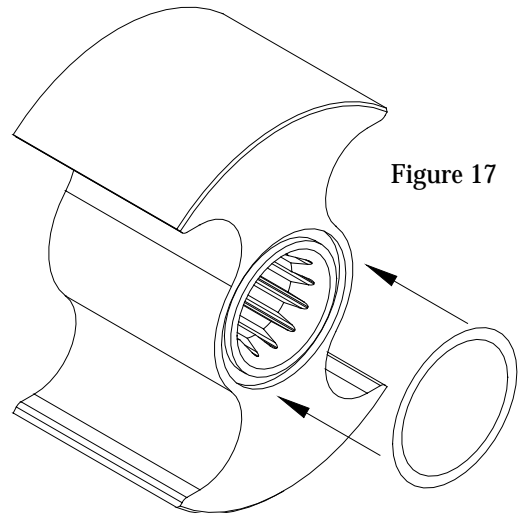
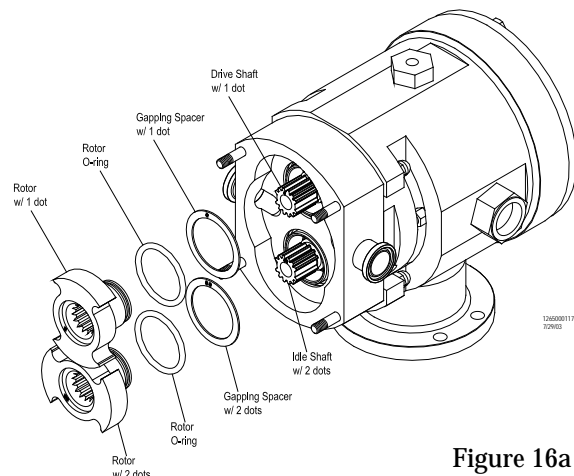

Figure 17
Figure 16a
- Install the rotor o-rings (12) into the grooves on the back of the rotors (11) (Figure 17).
- Install the rotors, o-ring side first, into the pump housing. Install the rotor (11) marked with one dot onto the drive shaft (47). Install the rotor (11) with two dots onto the idle shaft (41). Note: the dots are located in the o-ring groove on the front of the rotor.
b) Install the gapping spacer and rotor on to the appropriate shaft. Install the rotor with one dot onto the drive shaft and the rotor with two dots onto the idle shaft (Figure 16a).
c) Install the rotor nut o-rings (5) into the rotor nut groove on the front of the rotor (11).
d) Apply one drop of removable thread lock to the shaft threads and thread the rotor nuts (4) onto the shaft in the clockwise direction.